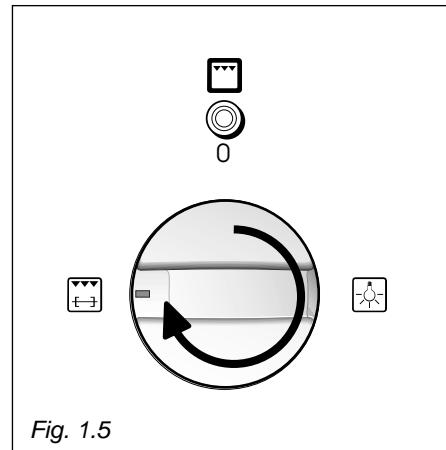

Fig. 1.5
- Switch the grill and the rotisserie on by setting the knob to position  (fig. 1.5).